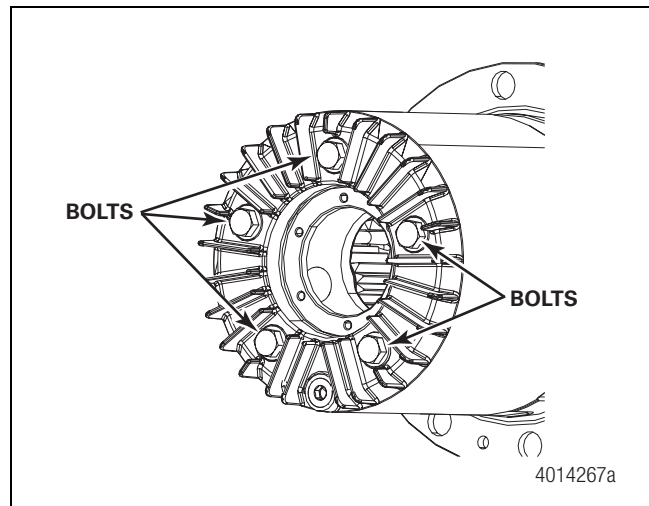
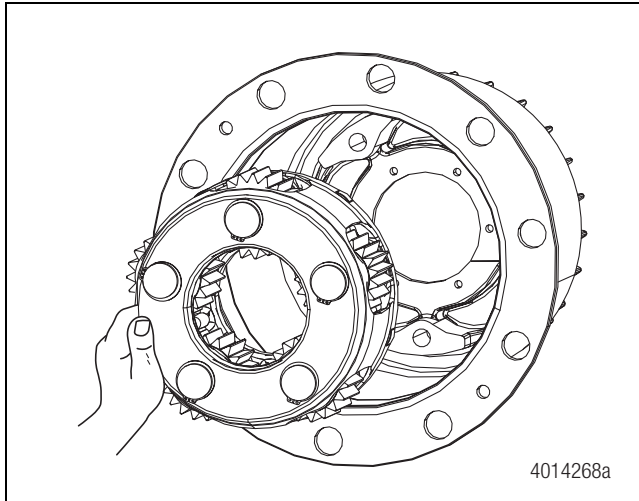

Figure 4.10
Figure 4.11
2. Remove the five bolts and remove the inner carrier assembly from the hub. Figure 4.10 and Figure 4.11.